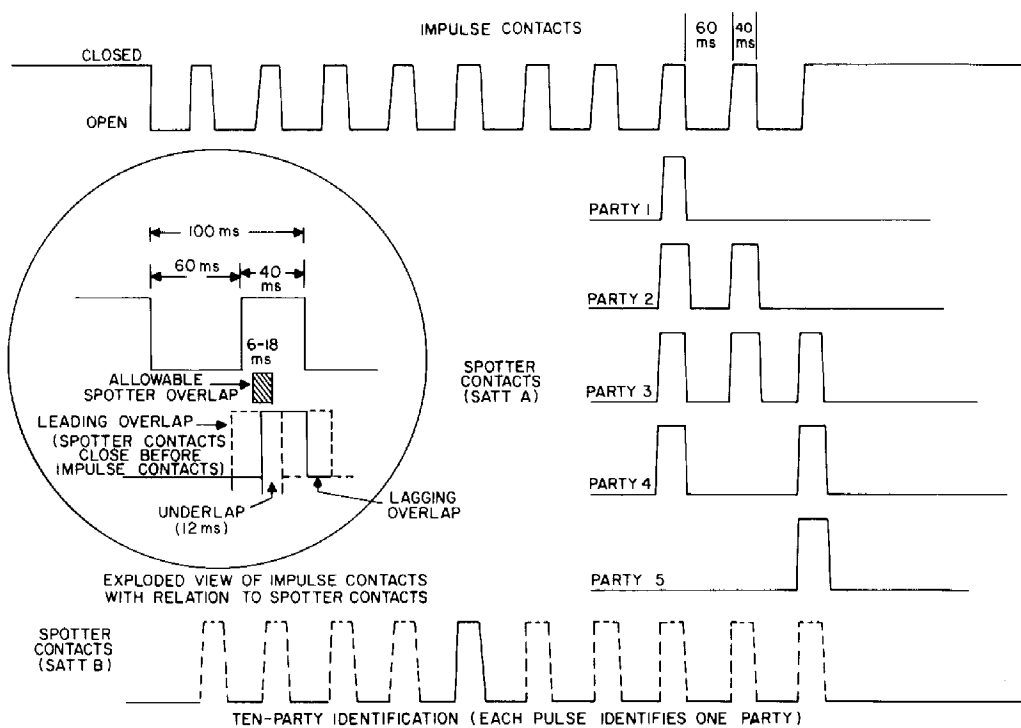

Figure 28. Main Impulse and Spotter Pulse Relationship.
11.01 After all mechanical adjustments have been completed, the dial should be given a thorough electrical test. Figure 28 represents the relationship between pulses transmitted by the main impulse contacts and those transmitted by SATT spotter contacts. The exploded view inside the circle shows more clearly the condition commonly referred to as spotter overlap, which is defined as the time difference, during dial rolldown, between the instant the impulse contacts close and the instant the spotter contacts close. Since the SATT system cannot tolerate a leading overlap condition where the spotter contacts close prior to the impulse contacts, acceptable spotter pulse adjustment is based upon lagging interval.